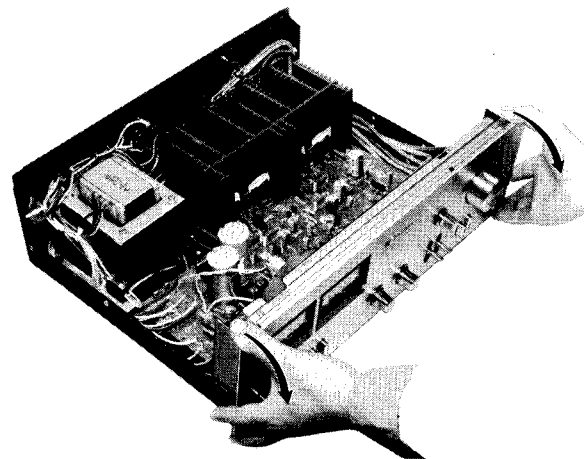

Fig. 3
6. As photo in Fig. 3, hold the panel at its side ends and push it downward tilting slightly its top part to the frontward direction.